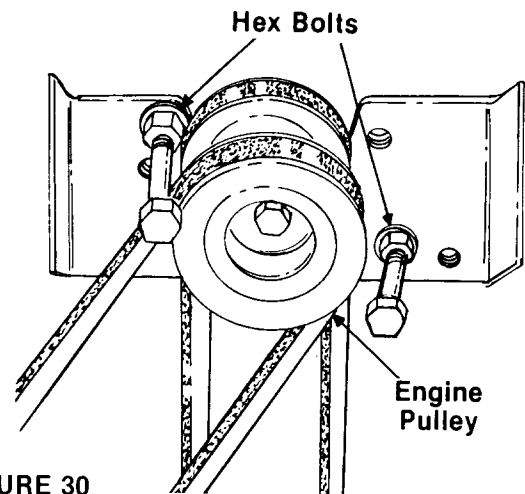

FIGURE 30
- Remove the two hex bolts (belt keepers) from the engine pulley belt guard. (See figure 30).
Make certain hex bolts are reassembled as shown in figure 30.
5. Remove the two hex bolts (belt keepers) from the engine pulley belt guard. See figure 30.